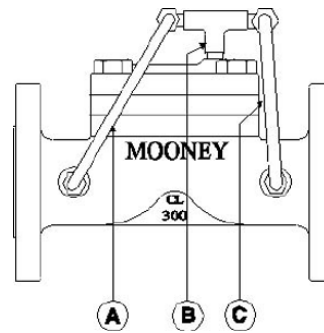

Fig. 8
2. Pipe regulator with the inlet, outlet, and loading connections all common so that pressure is equalized in the entire valve during the hydrostatic test. See Figure 8.